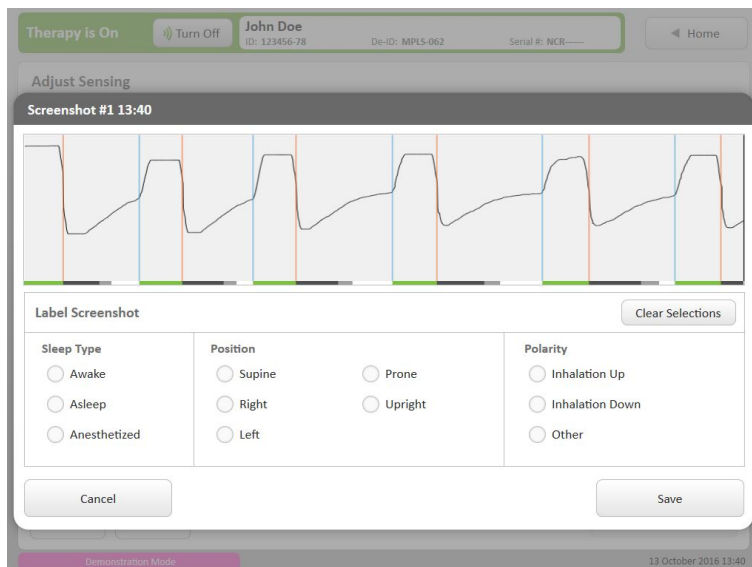

Figure 4-20. Screenshot Screen
- Select this button to save an image of the displayed waveform in the session report and to access the Screenshot screen (Figure 4-20).